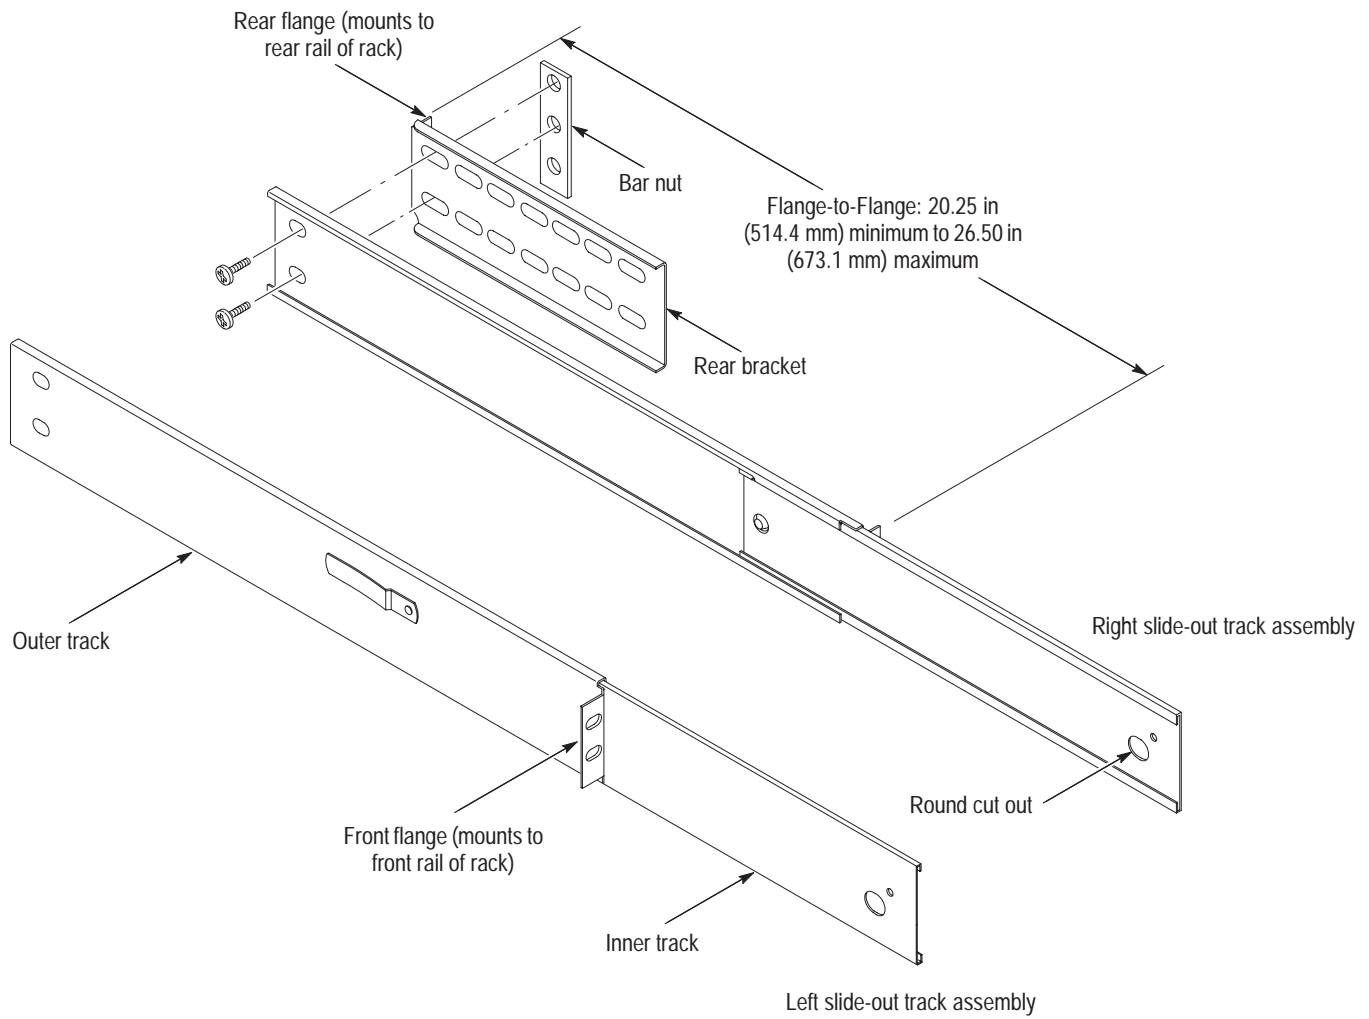

Figure 9: Assembly of slide-out track assemblies
- b.** Align the rear bracket to the right slide-out track as shown in Figure 9. Note the rear bracket has multiple pairs of mount-through holes. When aligning the bracket and track, be sure to select a pair of holes that mount the rear bracket so the flange-to-flange distance (see figure) matches the front-rail to rear rail distance measured in step **a**.